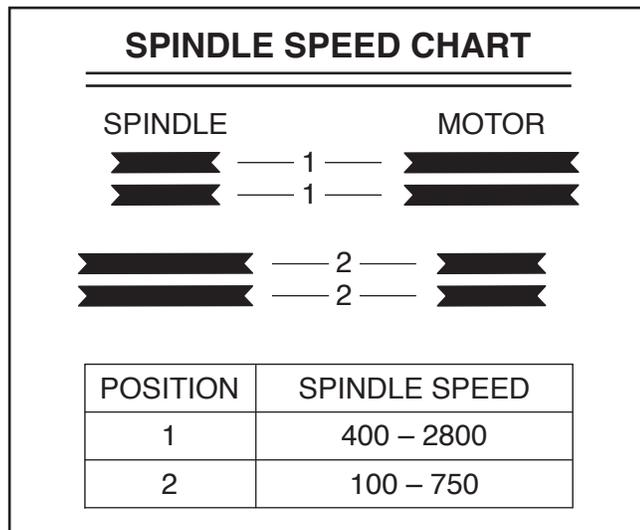

Figure 31. Spindle speed chart.
3. Use chart below or refer to spindle speed chart on headstock to find appropriate spindle speed for your operation (see **Figure 31**).